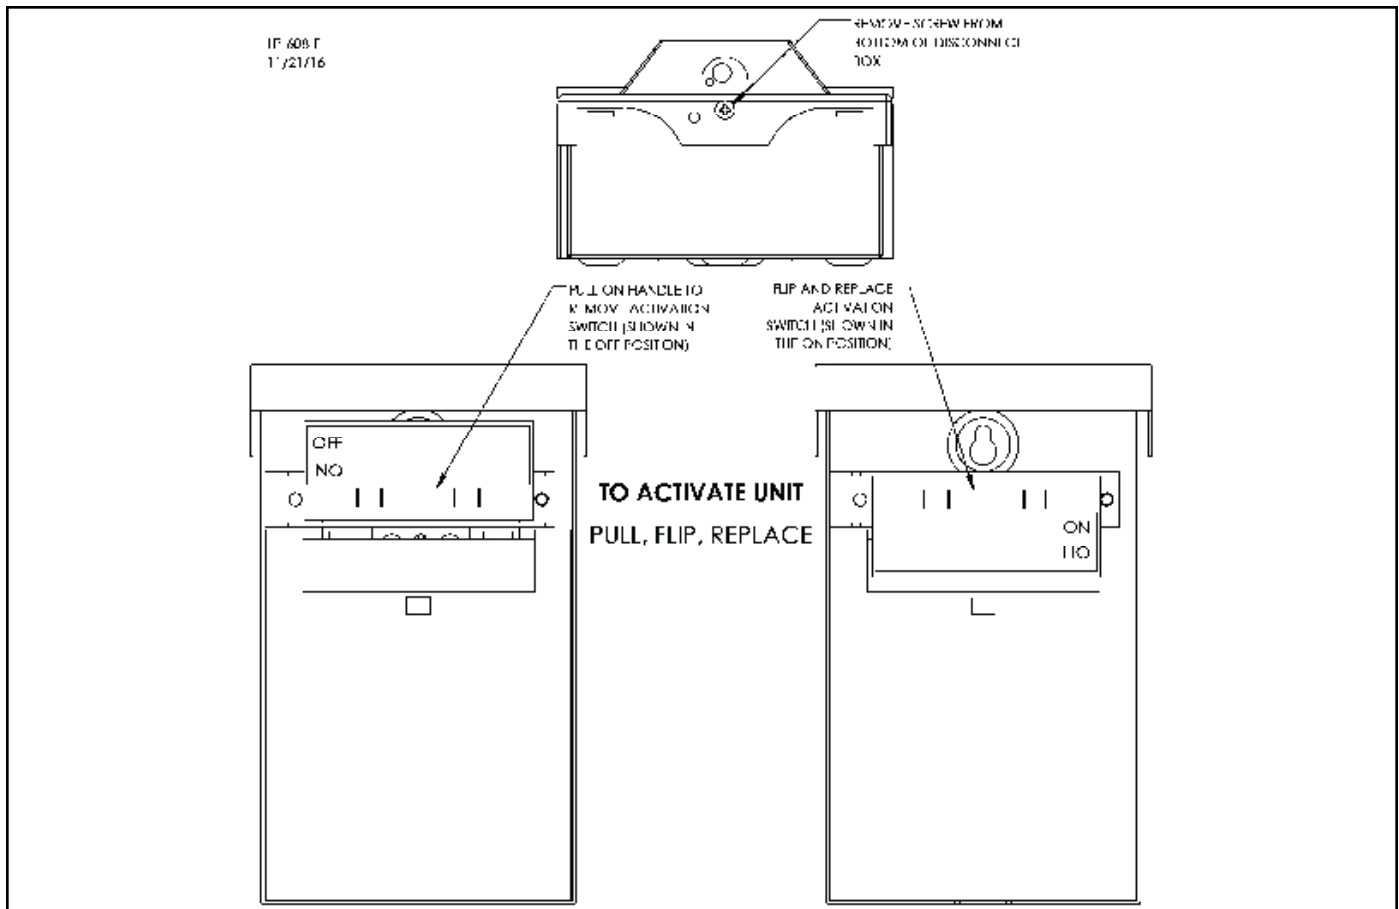

Figure 5 - Unlocking the Lower Element
4. Pull the handle to remove the activation switch marked "OFF" from the socket. See Figure 5 for details.